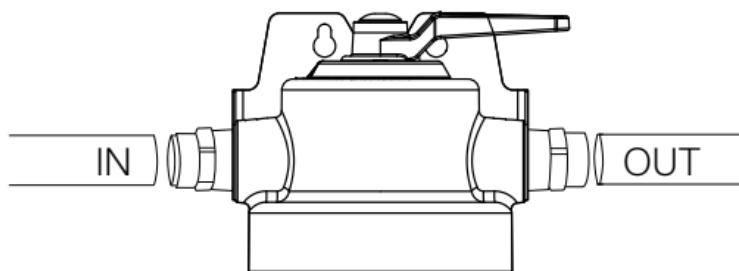

Figure 4
7. Referring to “Using Push-In Fittings” section, insert pipe into filter head fitting making sure end of pipe is firmly seated to backstop. Connect pipe from water supply to “IN” port (see Figure 4.)